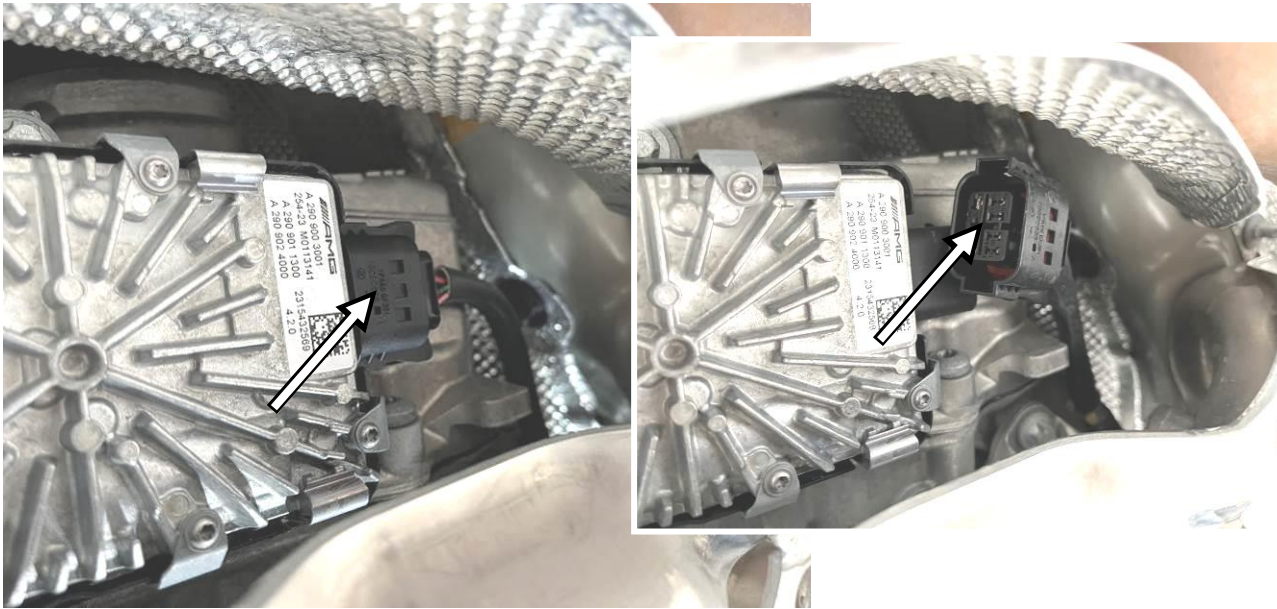

Figure 2
3. Disconnect electrical connector (**Figure 2**) at transfer case control unit (N45) above rear transmission crossmember and guide the wiring harness out toward the front, in the direction of the transmission.